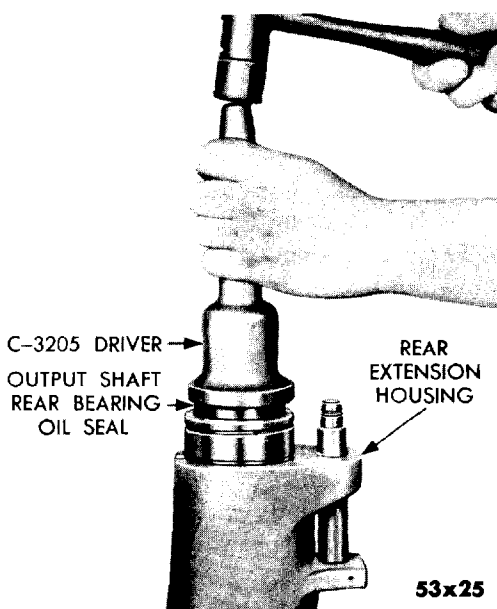

Fig. 40—Installation of Output Shaft Rear Bearing Oil Seal
(3) Install extension oil seal with driver, Tool C-3205, as shown in Figure 40.
(4) Place new transmission extension gasket over guide studs, Tool C-3283, and into position against output shaft support. Do not use sealing material on gasket. Avoid damaging the governor housing when placing the rear extension housing over the output shaft and onto the guide studs.
(5) Position housing by tapping with soft hammer. Remove guide studs and install the seven transmission extension to case bolts and lockwashers. Draw down evenly and tighten from 25 to 30 foot-pounds torque.